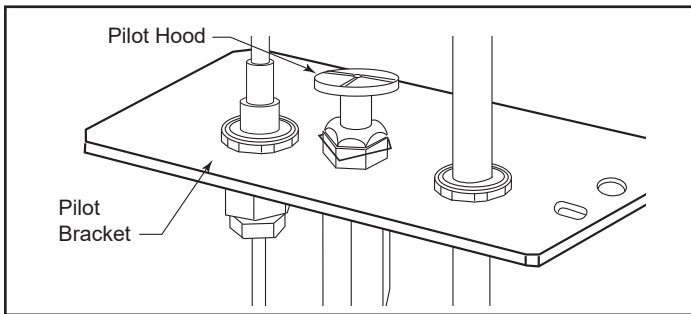

Figure 53 - Remove pilot hood.
- Remove pilot hood by lifting up. (Figure 53) Do not remove snap ring to remove pilot hood. **NOTE:** It is not necessary to remove the pilot tube for conversion.